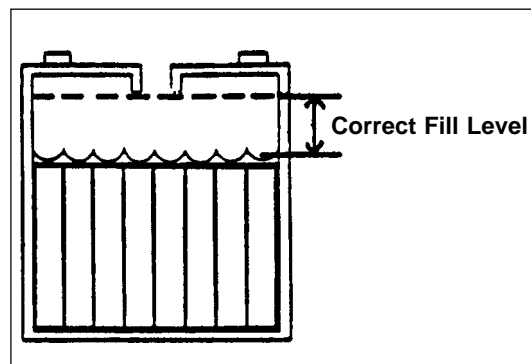

Figure 29
1. Keep the electrolyte at the correct level. The correct level is between 1/4" below the bottom of the tube in each cell and above the tops of the plates. Check the level of the electrolyte each time you charge the batteries. See figure 29.